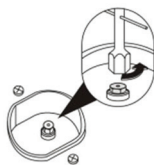
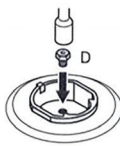
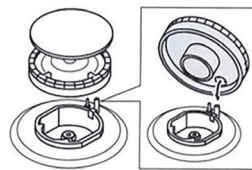

Figure 12.1
Figure 12.2
Figure 12.3
Remove the injector by help of 7's socket screwdriver as shown in the Figure 12.1 Fix the injector (D) to be converted as shown in the Figure 12.2. (see table 1). Replace the burner as shown in the Figure 12.3. Turn on the burners respectively after conversion and remove the button on the control panel and set the flame length by tightening or loosening the screw on the gas valve (12.4 cock) or in the valve shaft.